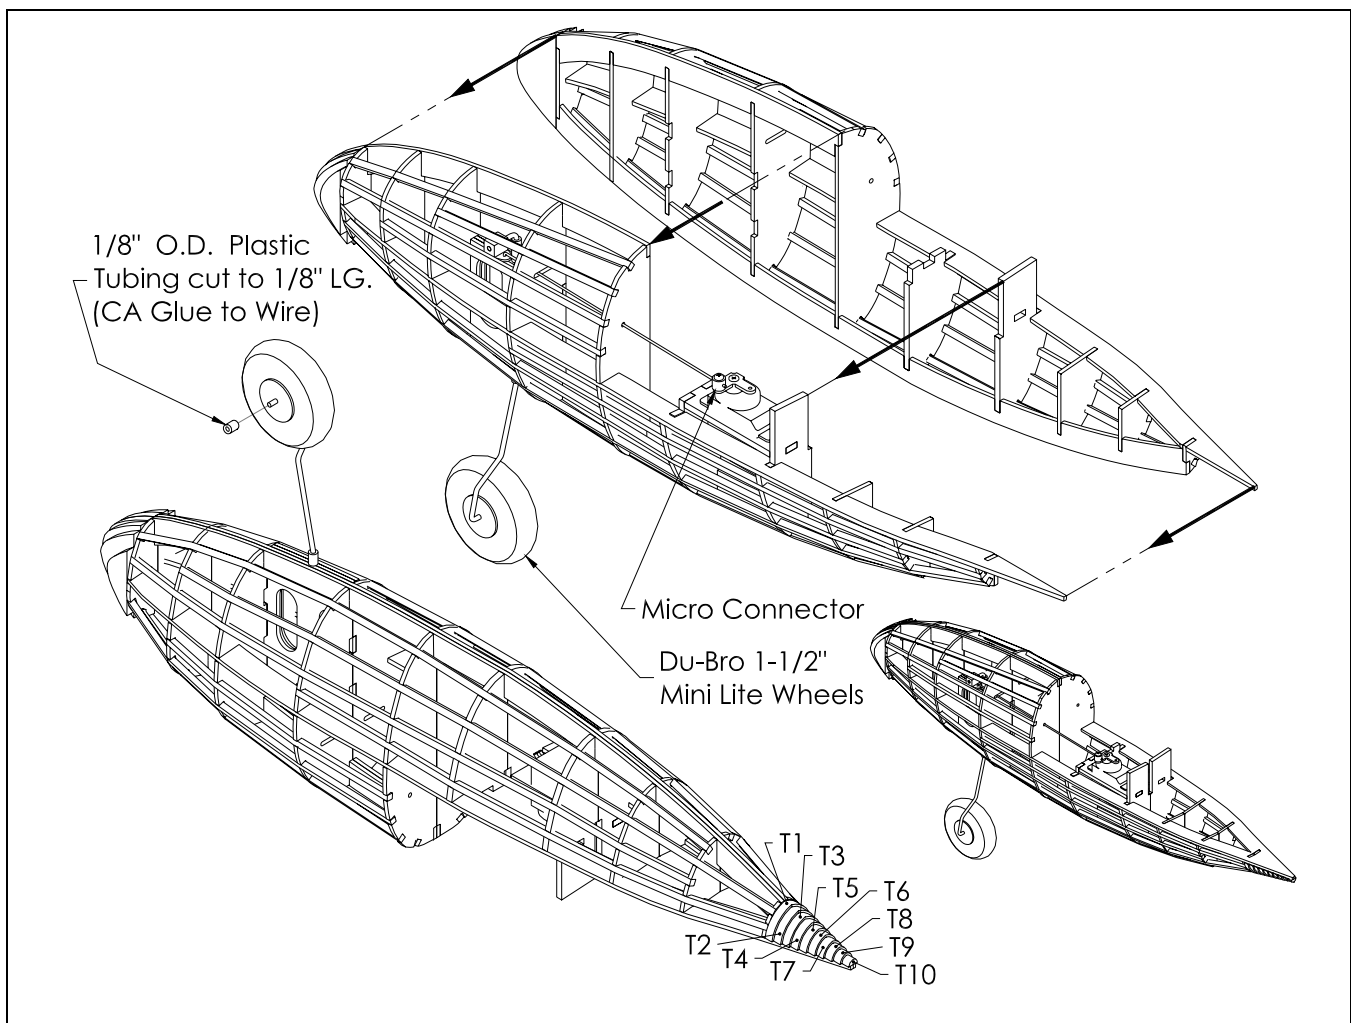

Figure 14
- ❑ Install the nose gear wheel. The nose gear wheel is held on with short section of 1/8" O.D. plastic tubing cut to 1/8" LG. The plastic tubing is attached with thin CA glue to the nose gear wire, be careful not to get any glue on the wheel. This is illustrated in Figure 14. (Note, the Du-bro wheels may have to be drilled out to fit the nose gear wire)
- ❑ Install the Micro Connector to the servo arm in the location illustrated in Figure 14. Slide the **Nose Gear Actuation Link** into the Micro Connector, center the nose gear and tighten the Micro Connector screw to retain the **Nose Gear Actuation Link**.